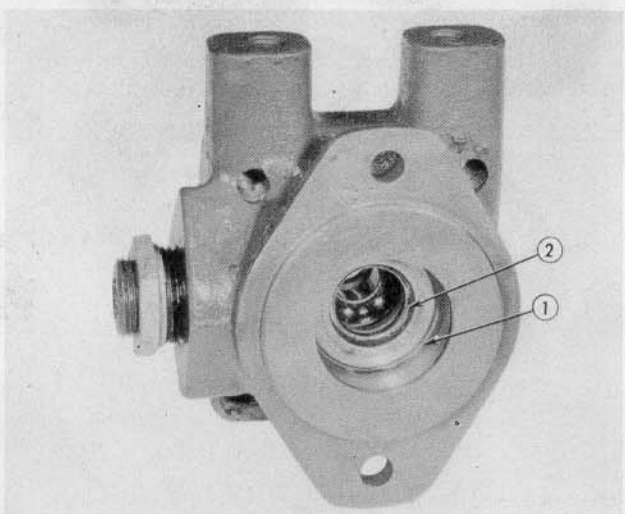

Fig. 35
Step 12—Remove the seal (1—Fig. 35 and spacer (2).